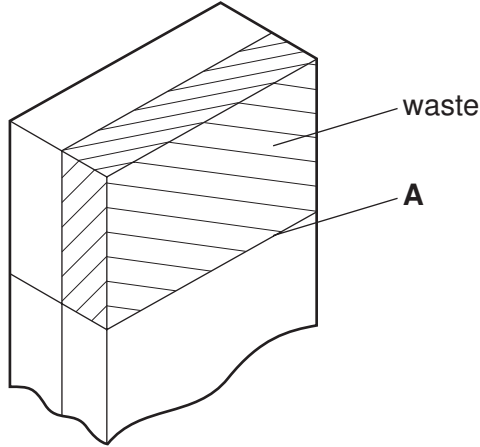

Fig. 1
- 1 Fig. 1 shows a joint marked out on a piece of solid wood.